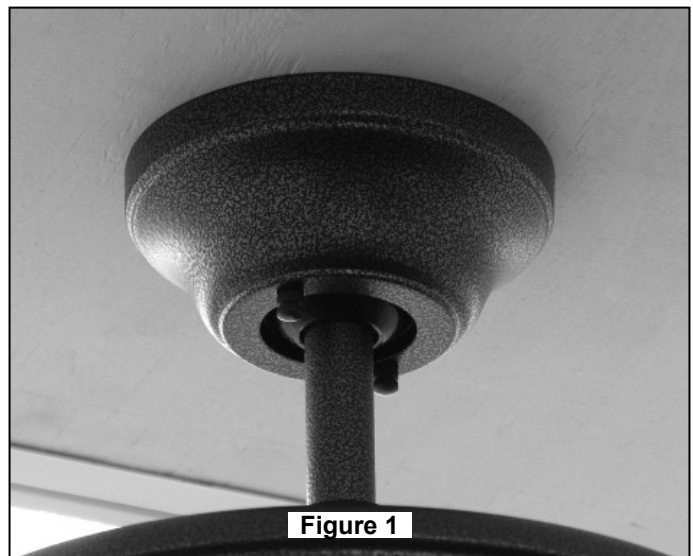

Figure 1
2. Securely attach the Canopy Housing to the Hanger Bracket using the external lockwashers and knurled knobs supplied with your fan (Figure 1).